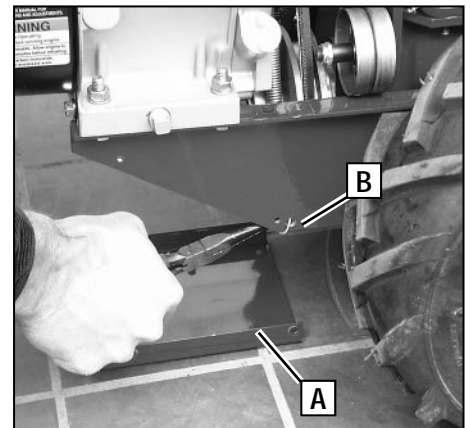

Figure 5-20: Remove transmission cover and unhook reverse idler spring.
3. Remove the front transmission cover (A, Figure 5-20) by removing the four self-tapping screws.
4. Using needle-nose pliers, reach inside the left side frame and carefully unhook the reverse idler spring (B, Figure 5-20) from the hole in the frame.
5. Using needle-nose pliers, carefully reinstall the reverse idler spring (B, Figure 5-20) into the hole in the left side frame.
6. Reattach the front transmission cover (A, Figure 5-20) with the the four self-tapping screws.